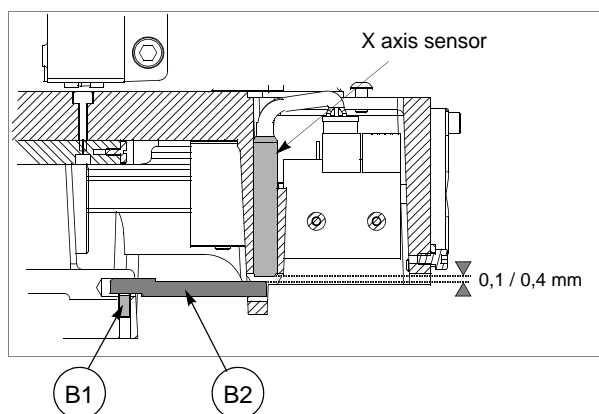

Fig. 53
- use the hex wrench to loosen the grub screw (B1) slowly move the rod (B2) manually in both directions (fig. 53) until the point of transition from OFF to ON is found. The display changes from: